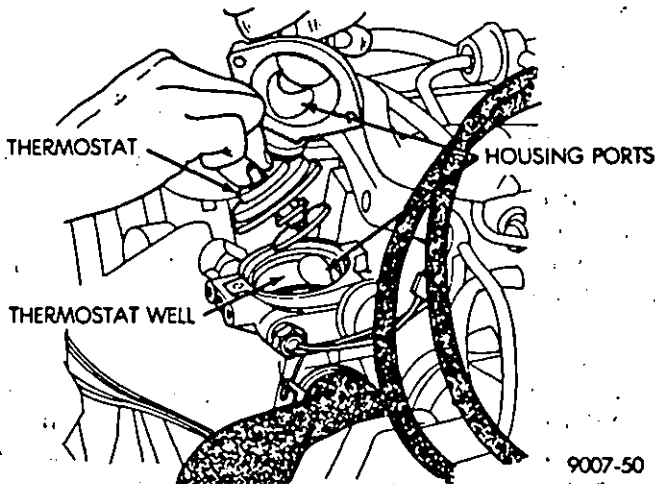

Fig. 13—Thermostat Housing 3.0L
The thermostat is located at the front of the engine behind the accessory drive belt (Fig. 13). **WARNING: DO NOT LOOSEN THE RADIATOR DRAIN WITH THE SYSTEM HOT AND PRESSURIZED BECAUSE SERIOUS BURNS FROM THE COOLANT CAN OCCUR.**
- (2) Disconnect the coolant temperature sensor wire connector from the sensor.
- (3) Remove the spark plug wire holder from the top of the thermostat housing. Place shop towels on belts and pulleys.
- (4) Remove thermostat housing (Leave upper radiator hose connected.)
- (5) Remove thermostat.
- (6) Check thermostat well and housing ports for blockage. Repair as necessary. (Fig. 13)
- (7) Clean gasket surfaces.
(1) Install the thermostat with the air bleed valve to the rear of the thermostat well and the flat disk to the bottom of the thermostat well.
(2) Install the thermostat housing. Tighten the mounting bolts to 12 N·m (9 ft-lbs). (Fig. 13)
(3) Close radiator drain and remove hose.
(4) Fill and bleed the cooling system (see Engine Cooling System Section—Filling and Bleeding Procedures).